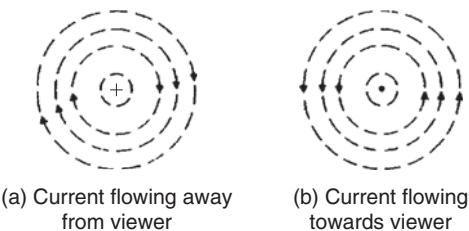
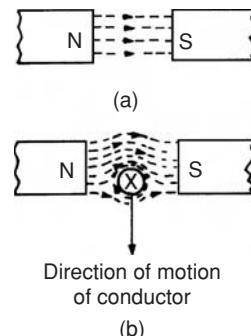

Figure 8.3
Figure 8.13
When dealing with magnetic fields formed by electric current it is usual to portray the effect as shown in Fig. 8.3. The convention adopted is:
- Current flowing away from the viewer, i.e. into the paper, is indicated by \oplus . This may be thought of as the feathered end of the shaft of an arrow. See Fig. 8.3(a).
- Current flowing towards the viewer, i.e. out of the paper, is indicated by \odot . This may be thought of as the point of an arrow. See Fig. 8.3(b).
For example, with current flowing away from the viewer (Fig. 8.3(a)) a right-hand thread screw driven into the paper has to be rotated clockwise. Hence the direction of the magnetic field is clockwise.
If the current-carrying conductor shown in Fig. 8.3 (a) is placed in the magnetic field shown in Fig. 8.13(a), then the two fields interact and cause a force to be exerted on the conductor as shown in Fig. 8.13(b). The field is strengthened above the conductor and weakened below, thus tending to move the conductor downwards. This is the basic principle of operation of the electric motor (see Section 8.4) and the moving-coil instrument (see Section 8.5).